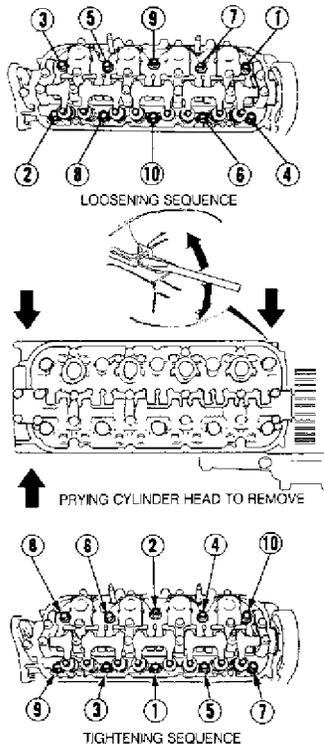

Fig. 7: Removing & Installing Cylinder Head
11) Remove cylinder head bolts and cylinder head. Separate cylinder head from block with a flat-blade screwdriver. See Fig. 7.